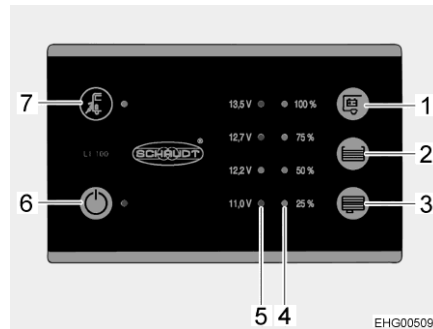

Fig. 96 Panel (LT 100)
The yellow LED at the mains connection symbol "⚡" (Fig. 96,7) is lit when the vehicle is connected to an external mains supply. In this case, the LED will also be lit when the panel is switched off.
The 12 V main switch (Fig. 96,6) switches the panel and the 12 V power supply of the living area on and off.
- Press switch "⏻" (Fig. 96,6): The 12 V living area power supply is switched on. The LED lights up green.
- Press switch "⏻" (Fig. 96,6) again: The 12 V living area power supply is switched off. The LED goes out.
The LED array (Fig. 96,5) displays the battery voltage of the living area battery as follows:
- Press the button " (Fig. 96,1): The battery voltage of the living area battery is displayed.
The LED array (Fig. 96,4) displays the fill level of the fresh water tank or of the waste water tank.
Press the button "FW" (Fig. 96,2): The fill level of the fresh water tank is displayed by lit LEDs.
Press the button "WW" (Fig. 96,3): The fill level of the waste water tank is displayed by lit LEDs.